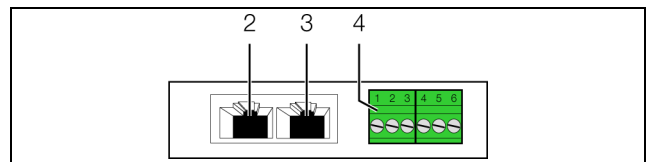

Fig. 7: Rear of the universal sensor
- Connect an external device to the universal interface as per the following descriptions (fig. 7, item 4).
- Use a CAN bus connection cable to connect the universal sensor to a CAN bus interface on the CMC III Processing Unit or the neighbouring component on the CAN bus (fig. 7, item 2).
- If necessary, connect another component (e.g. another sensor type) to the second, free CAN bus interface of the universal sensor (fig. 7, item 3).